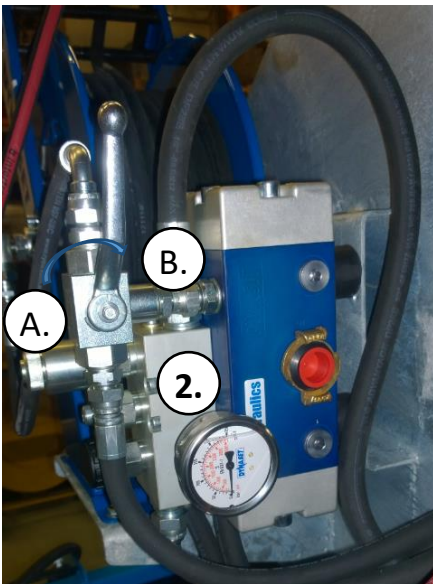
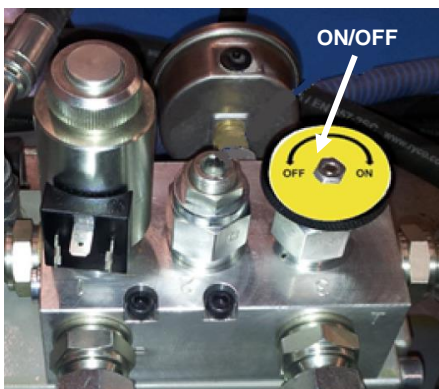

Figure 5
Figure 6
1. The nozzles of the sweeper must be activated (Figure 5) (valve 2 in position A). Note! Valve 2 is only installed on sweepers that have a washing gun and hose reel, in addition to the high-pressure pump.
3. Turn the ON/OFF valve (Figure 6) anticlockwise to the OFF position. This will switch the sweeping mechanism off.
When you are using only the washing gun, turn the rotation hydraulics of the brush off by turning the control switch on the pump (Figure 6). Activate the washing gun by turning the valve (number 2 in Figure 5) to position B.
Valve 2 (Figure 5) activates the washing nozzles (position A) or the manual washer (position B).
- Allow the pump to run with valve 2 in position A (Figure 5) until all the water is drained from the nozzles.